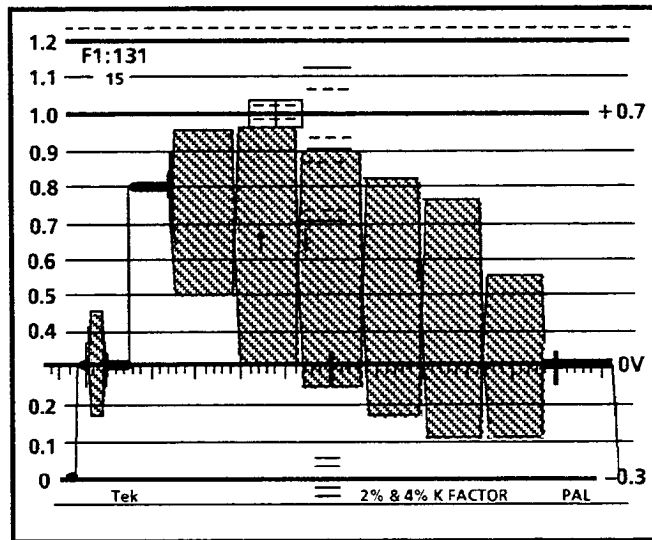

Figure 1-14: A 1 Line Sweep rate with 15 continuous lines (from mid field) displayed using LINE SELECT
- d. Push and hold the SWEEP button until the front-panel 1LINE indicator lights. Look for a display of one line, with a line F1 or F2:131 over 15 readout. This is 15 continuous lines in field 1 or field 2 (as indicated by the readout). See Figure 1-14.